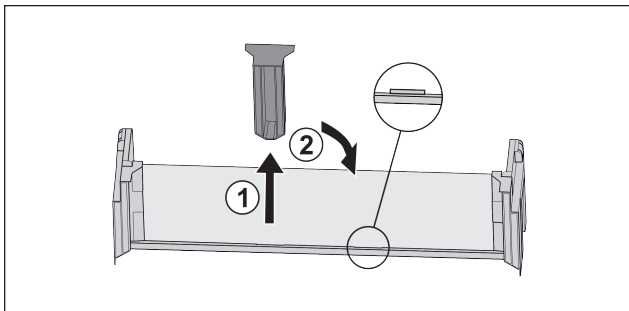

Fig. 54
- ▶ Pull off the middle holder Fig. 54 (1).
- ▶ Insert the middle holder in the second position Fig. 54 (2).